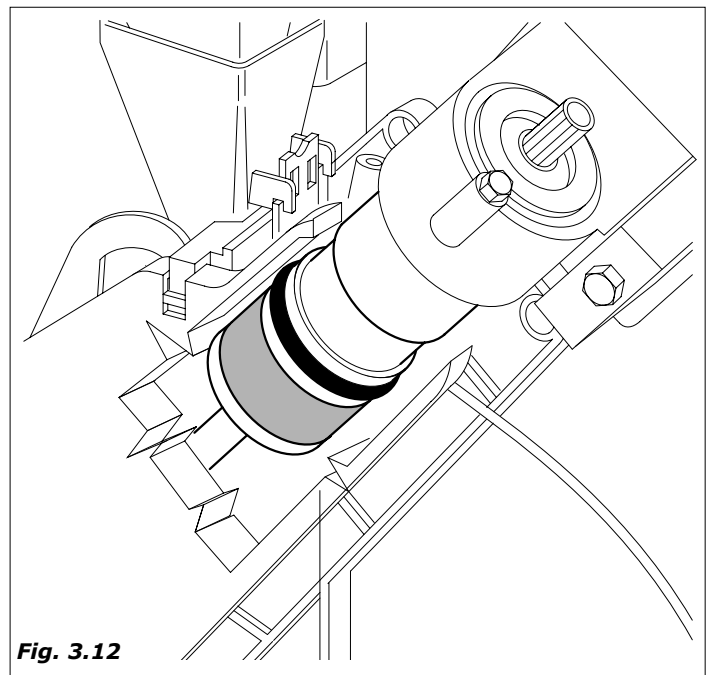

Fig. 3.12
- the rotation group geared motor brings it into the dispensing position and simultaneously compresses the ground coffee (Fig.3.12).